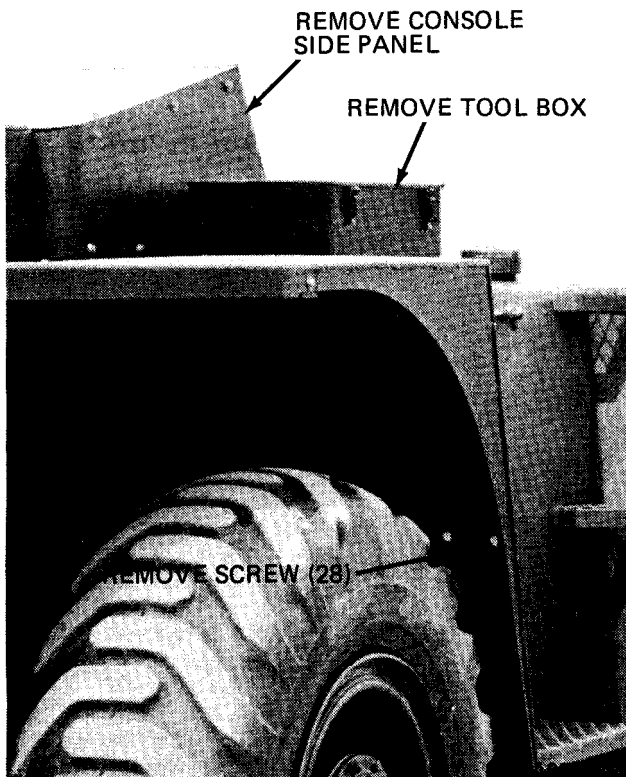

Figure 3-60. Fuel tank, removal and installation.
- (1) Remove toolbox (fig. 3-60).
- (2) Remove console side panel (fig. 3-60).
- (6) Remove mounting nuts and screws (fig. 3-60) securing fuel tank to forklift truck.
- (2) Secure the fuel tank (fig. 3-60).
- (4) Install the console side panel and toolbox (fig. 3-60).
- (5) Fill the fuel tank (TM 10-3930-634-12).
- (6) Lower the extension boom and remove the extension supports.